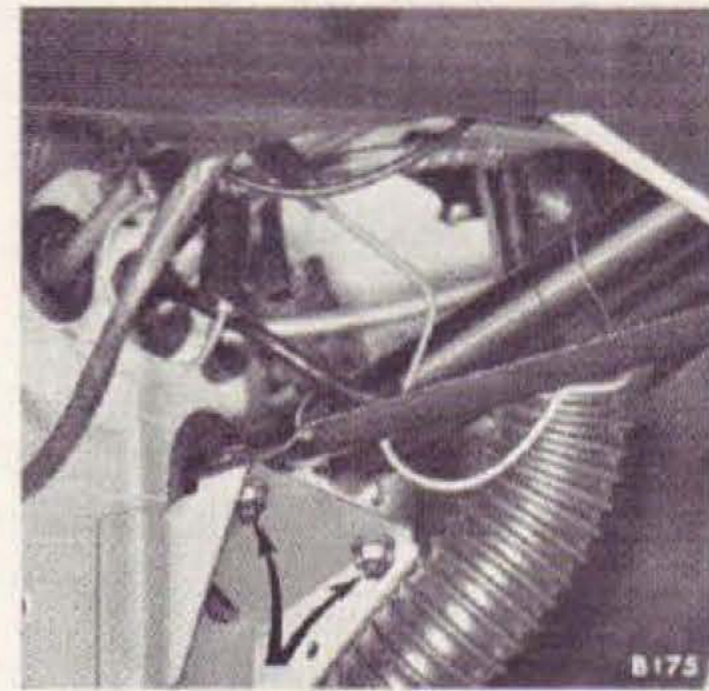

Fig. 53
2. Working inside the vehicle, slacken the clamp nuts shown arrowed on Fig. 53.
5. Using only finger pressure on the socket key, tighten the screw (2) and secure the locknut (1).